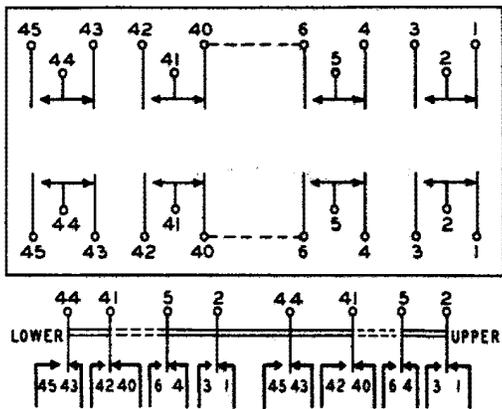

Fig. 93 – Spring Terminal Arrangement as Viewed From the Rear (terminal side) — 202-, 211-, and 212-Type Switches
3.06 The spring terminals of these switches are numbered consecutively from 1 up from right to left as viewed from the terminal end of the switch as shown in Fig. 93. Where the word top or upper is associated with a spring combination on the schematic or if the suffix T is used in connection with a terminal number, this refers to springs in the upper row of terminals. Similarly, the term lower or bottom or the suffix B refers to terminals in the lower row.